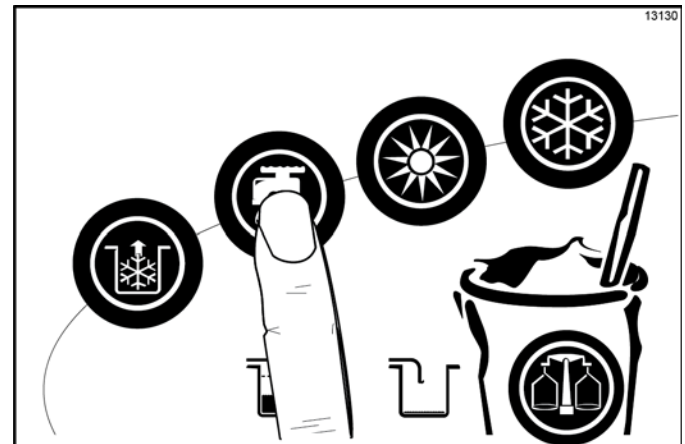

Figure 6-50
10. Press the Wash key . This will cause the sanitizing solution in the freezing cylinder to come in contact with all areas of the freezing cylinder. (See Figure 6-50.)